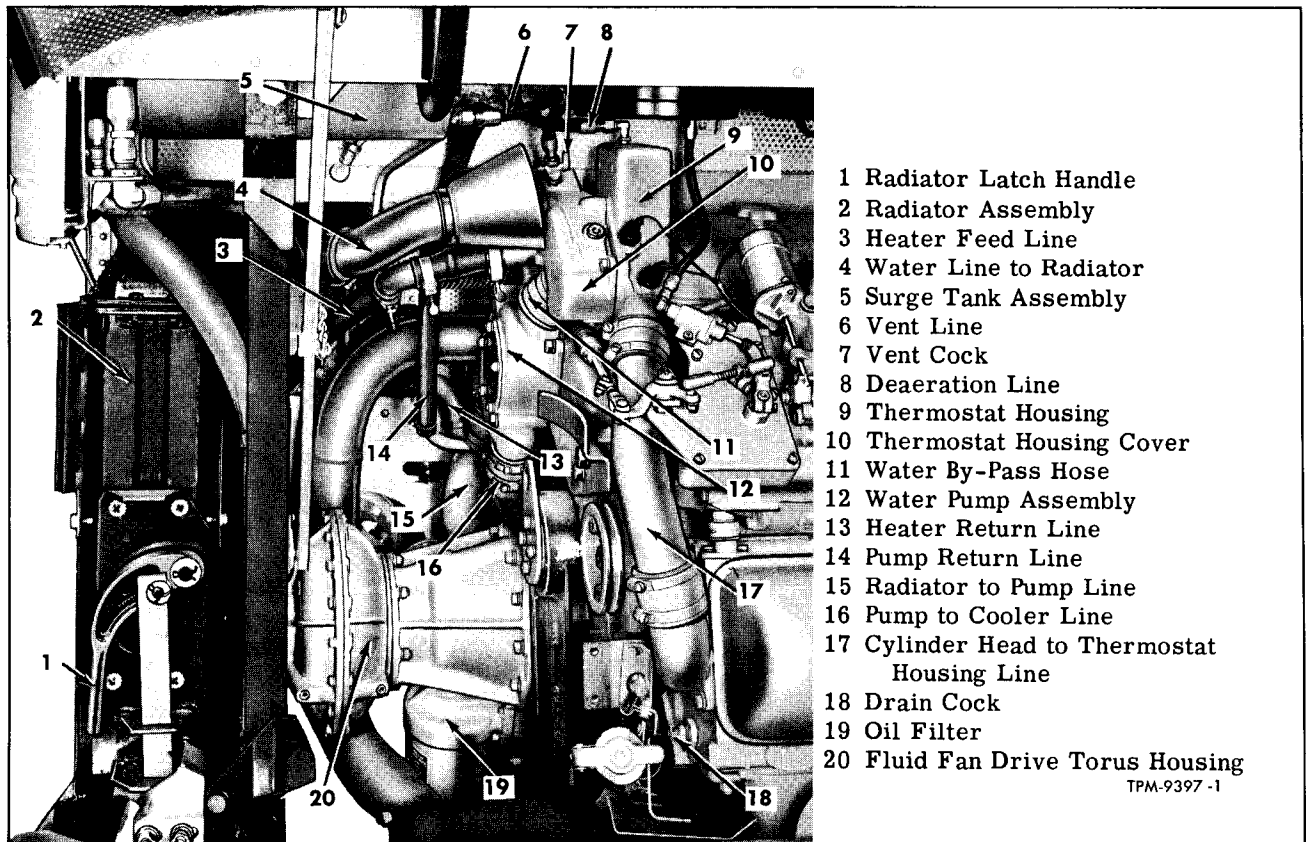

Figure 1—Cooling System Units—8 Cylinder Shown
Engine is cooled by liquid which is circulated within a sealed system. Cooling system units include: water pump, radiator, surge tank and engine thermostats. A fluid-driven fan mounted on housing at front of engine (fig. 1) forces air through radiator core for cooling. Some radiators are equipped with shutters which aid in controlling temperature.
2. Open shut-off cock in vent line at top of thermostat housing at front of engine (fig. 1).
6. After all lines have been bled, close vent line shut-off cock at fitting in top of thermostat housing (fig. 1).
5. Check operation of fluid fan (fig. 1) which must not run at full speed when engine is cold, but must operate when engine has reached normal operating temperature.
Engine thermostats are located in outlet housing at front of engine (fig. 1).